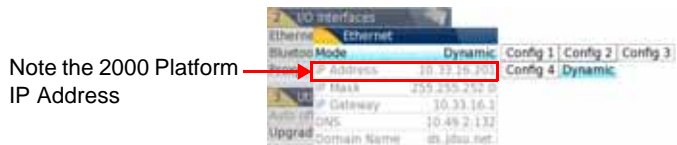

Fig. 39 Example of configuration for I/O Interfaces box
- 2 Considering 10.33.18.93 is the IP Address of the 2000 Platform (as shown Figure 39 on page 65), enter the following address in the Internet Explorer window: